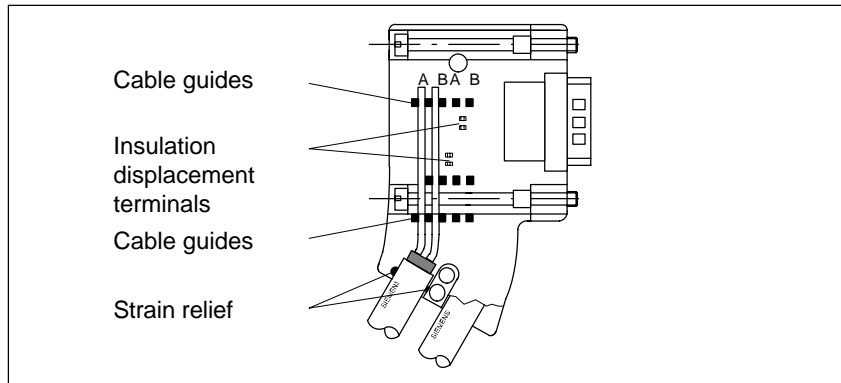

Figure 4-20 Connecting the LAN cable to bus connector (6ES7 972-0BA30-0XA0)
4. Place the green and red cores in the cable guides above the insulation displacement terminals as shown in Figure 4-20.